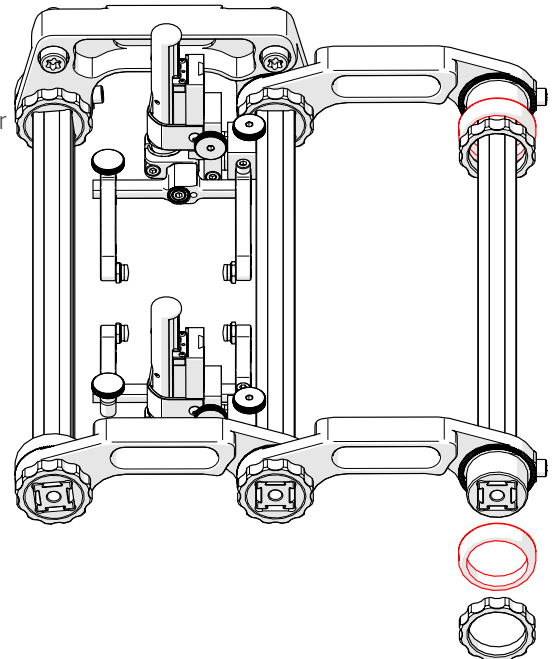

Fig. 142 - Remove probe holder frame nuts and caps where possible
3. Remove the probe holder frame nut and the cap from the front of the probe holder frame (Fig. 142).